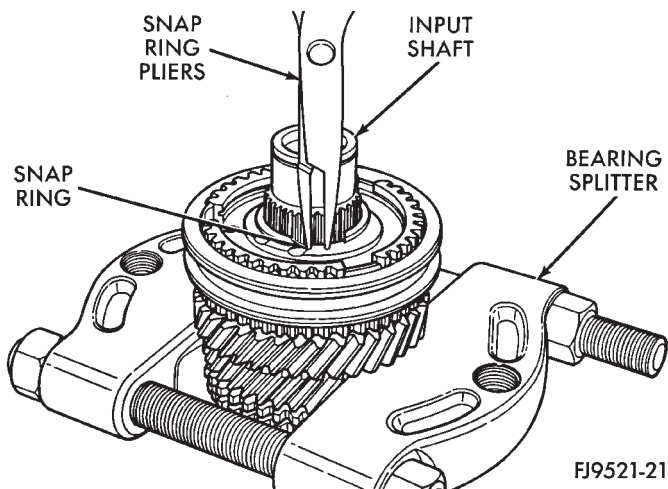

Fig. 88 5th Synchro and Hub Snap Ring Removal
(1) Install bearing splitter behind 5th speed gear. Remove snap ring at 5th synchronizer hub on input shaft (Fig. 88).